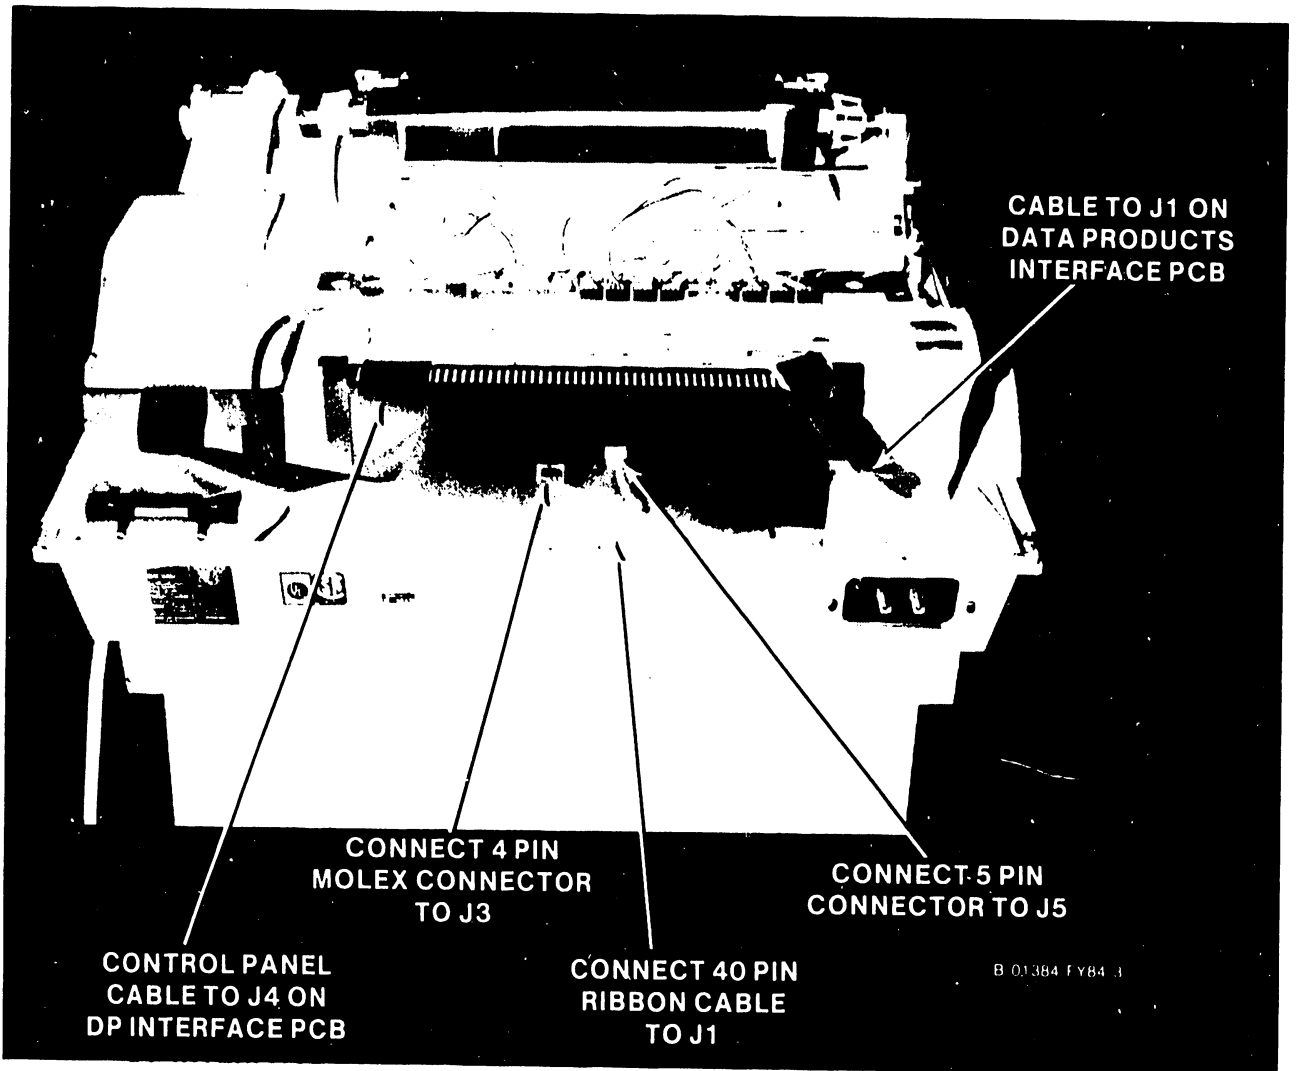

Figure 6 Upgrade Kit Installed
18. Partially insert the completed Siblink assembly into the rearmost card position in the printer and connect the 40 pin ribbon cable which comes from J5 on the Dataproducts Interface PCB to J1 on the Siblink Assembly (see Figure 6). Then completely insert the Siblink assembly and lock into position.
19. Connect the remaining cables to the new Siblink assembly as follows (see Figure 6):
20. Connect the ribbon cable coming from the control panel to J4 on the Dataproducts interface board (see Figure 6).